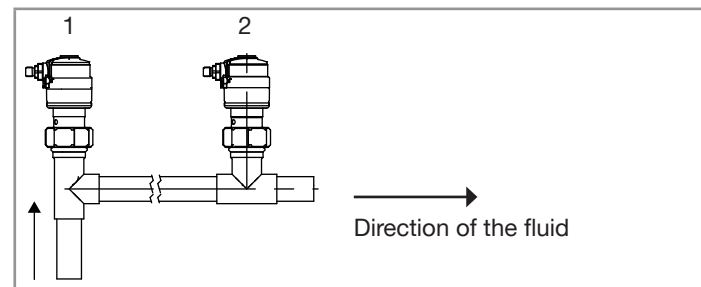

Fig. 9: Mounting positions of the fitting/device unit in the pipe
If the conductivity is measured in liquids containing solids that may leave deposits in the bottom of the pipe, use installation position 1 (see Fig. 9).
- Choose an appropriate position in the pipe to install the fitting. In Fig. 9, prefer mounting position "1" to install a device with conductivity sensor C=0.1 or C=0.01.